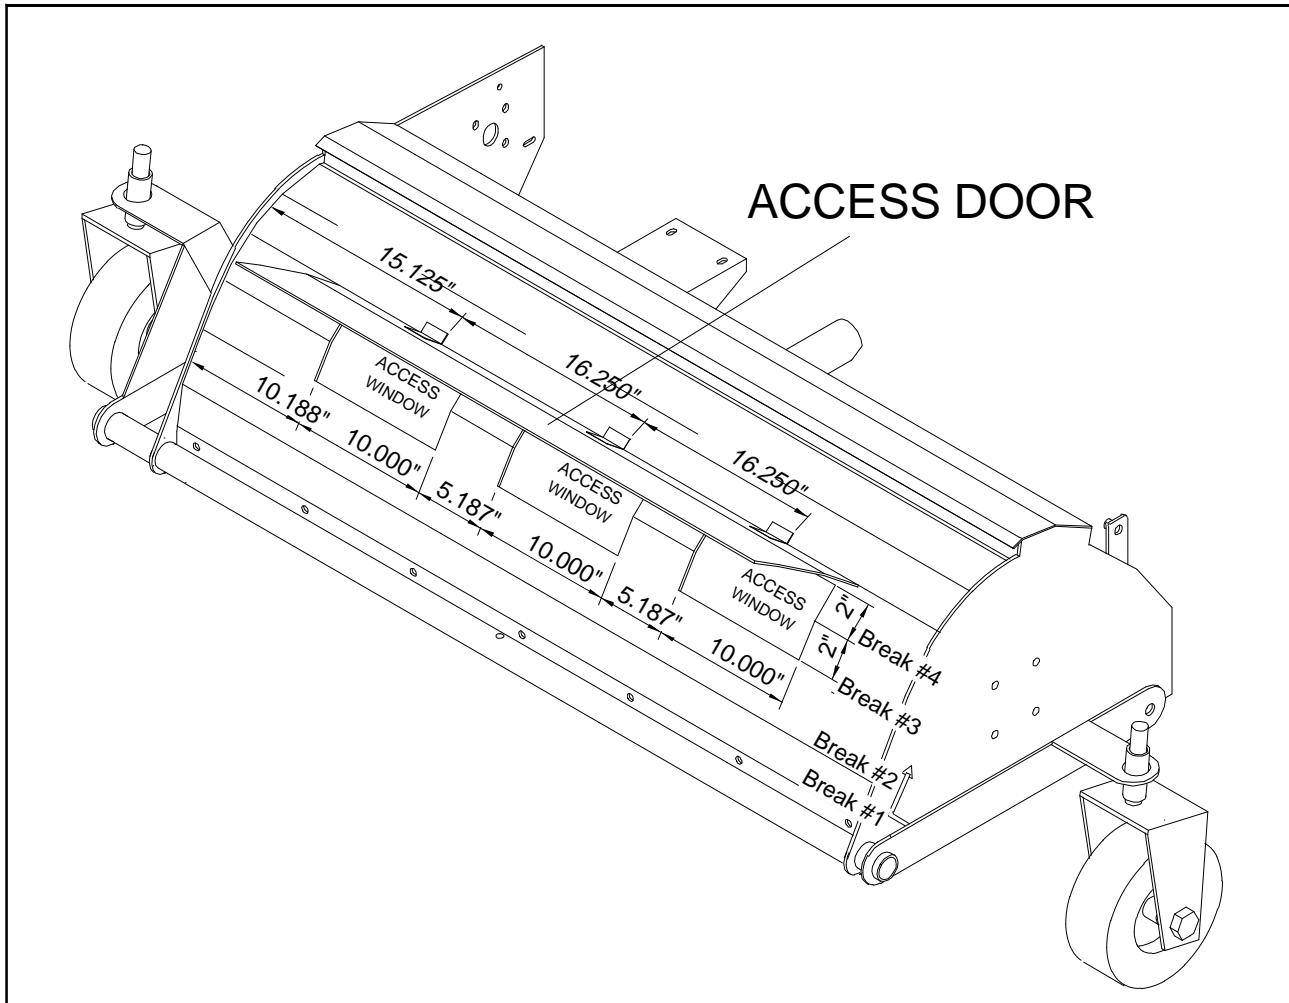

Figure 1
2. Locate and mark the access windows as shown in Fig. 1.
3. Drill (2) two holes in opposite corners of each access window marked. Make holes large enough to allow saw blade to move freely.